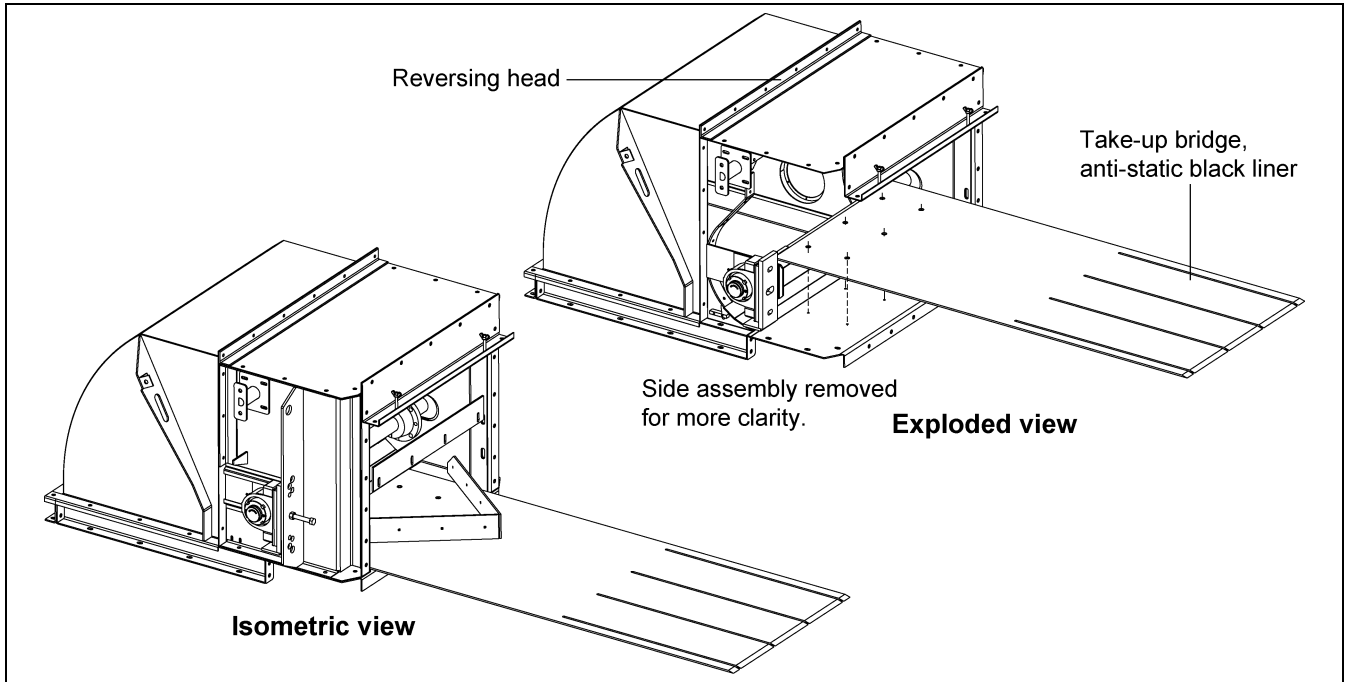

Figure 2
3. Fasten the UHMW sheet to the head housing using six (6) 1/4"-20 x 3/4" button head socket cap screw (or equivalent).
4. The UHMW take-up bridge will then go through the take-up and **UNDER THE INTERMEDIATE LINER** using existing hardware. (See Figure 2 below to Figure 5 on Page 4.)